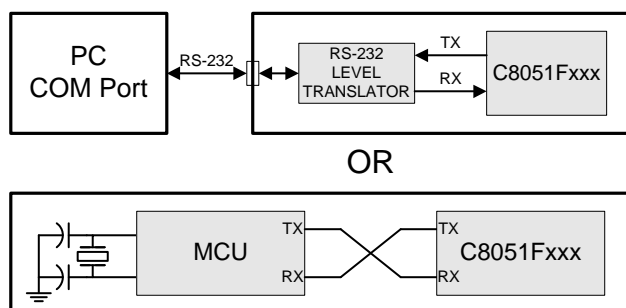

Figure 21.5. Typical UART Interconnect Diagram
In typical UART communications, The transmit (TX) output of one device is connected to the receive (RX) input of the other device, either directly or through a bus transceiver, as shown in Figure 21.5.